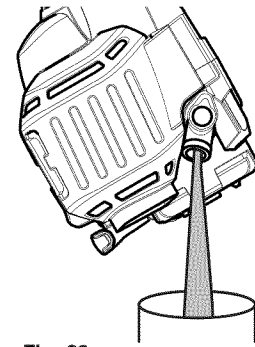

Fig. 28
3. Tip the unit vertically to pour the oil out of the oil fill hole and into a container (Fig. 28). Allow ample time for complete drainage.